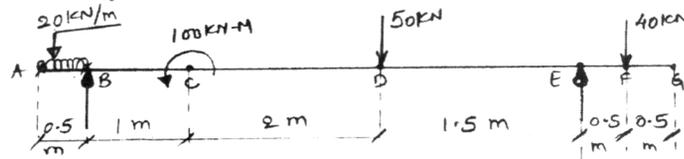

Fig.Q4(b) (14 Marks)
- 4 a. The stresses acting at a point in a two dimensional system is shown in Fig.Q4(a). Determine the principal stresses and planes, maximum shear stress and planes, normal and shear stresses on plane AB. (10 Marks)
- b. Draw shear force and bending moment diagram for the beam loaded as shown in Fig.Q4(b). Also locate the points of contra flexures.